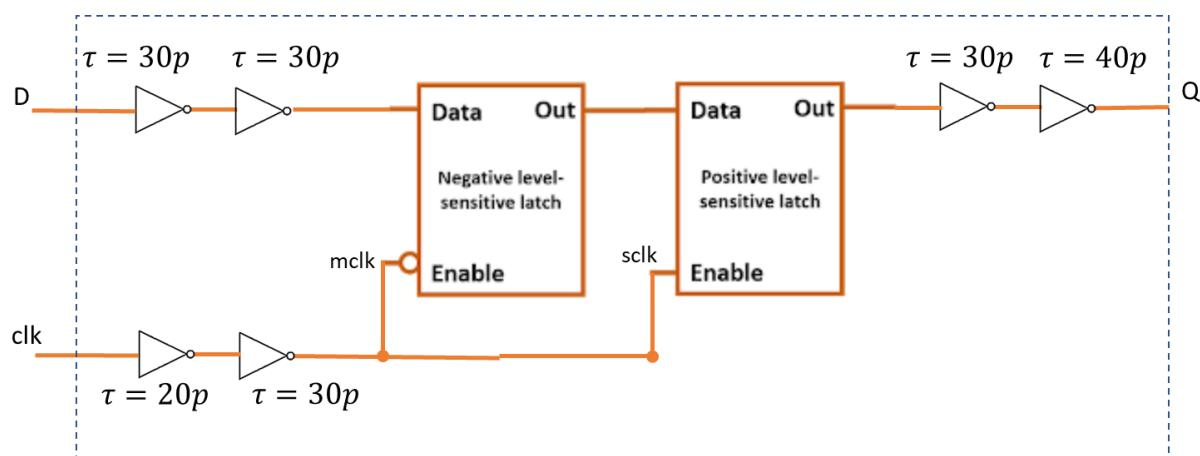

Fig. 13
c. Finally, consider the standard cell construction of Fig. 13